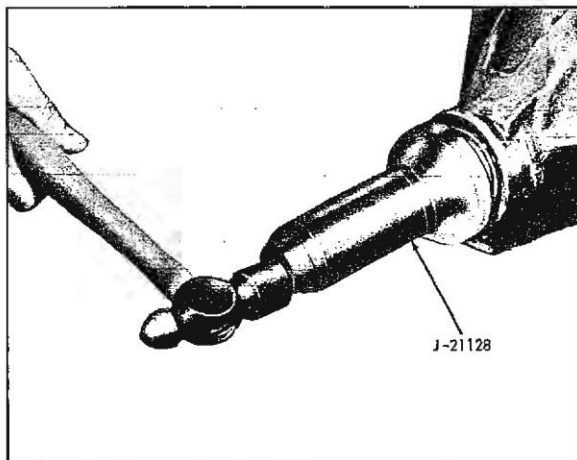

Fig. 4-40 Installing Front Pinion Bearing
2. Place front pinion bearing in position on pinion. Hold pinion fully forward and drive bearing over pinion until seated, using installer J-21128 (Fig. 4-40).